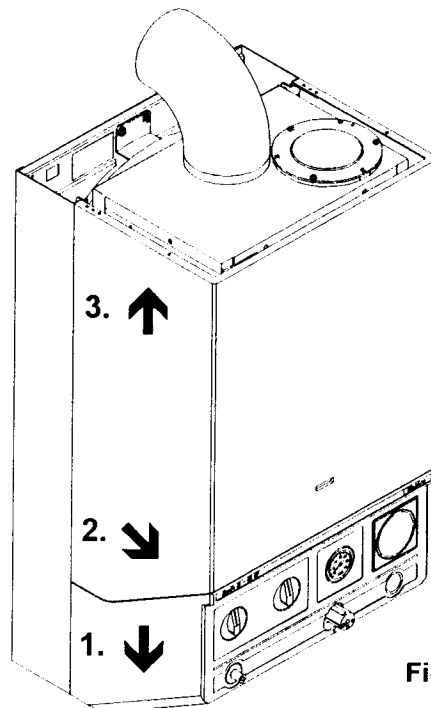

Fig. 24
8.4.2 To remove the upper outer casing disengage the 2 locating pins at the bottom left and bottom right corners by pulling the casing forwards. Slightly lift the casing to disengage from the top suspension hooks. (Fig. 24)